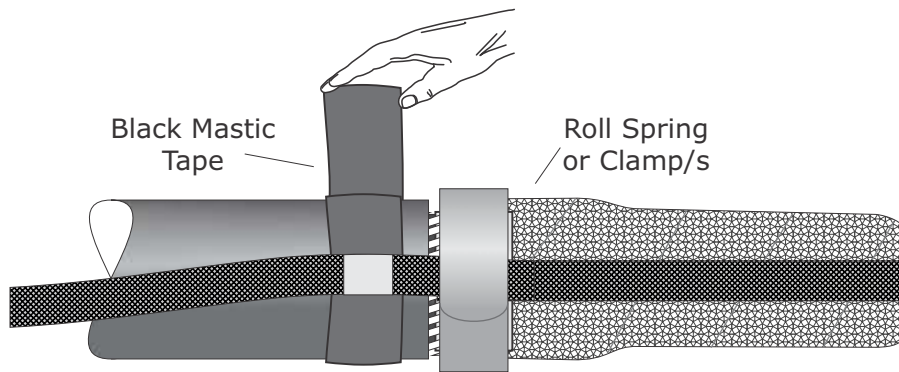

Fig 3
4. Wrap copper mesh all around the cable and secure along with the earth braid to the armour wires/braid screen with the worm drive clamp or roll spring supplied as shown above in Fig 3. Apply black mastic tape over any sharp points.
Note: if non armoured cable and if specified, the kit can be supplied with a copper strap to bond to earth externally. Position the solder block on a turn of mastic tape and apply a further turn of tape as shown above in Fig 3.